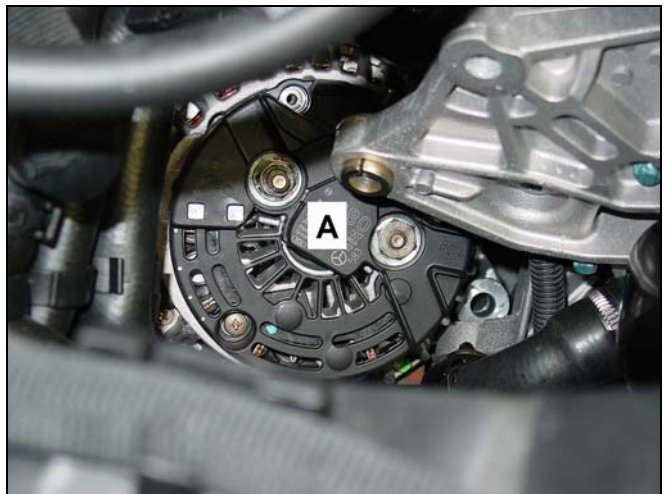

Figure 14
- Position alternator (A, Figure 14) with regulator facing up and pulley facing down. **REGULATOR WILL BE REPLACED WITH ALTERNATOR IN ENGINE COMPARTMENT** (proceed to Subject D).